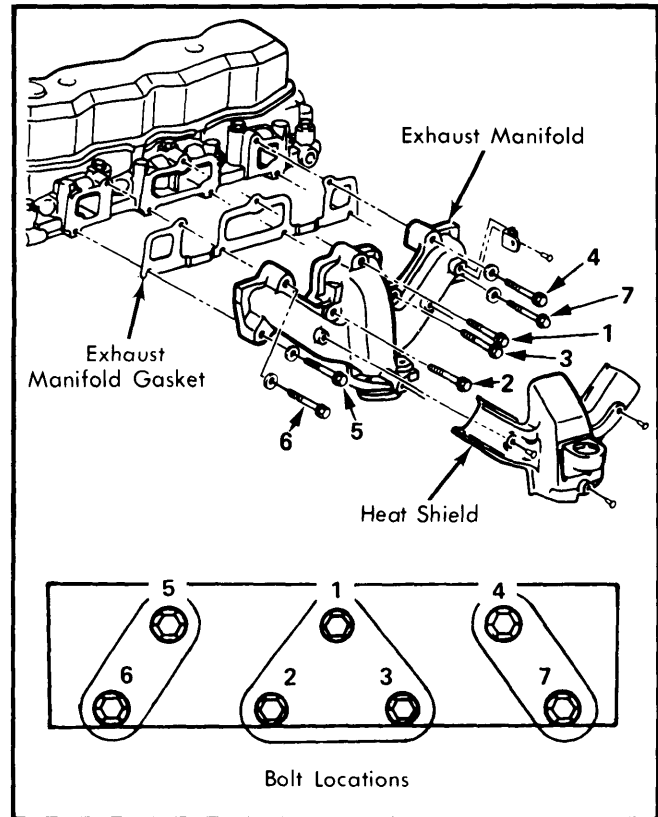

Fig. 2 Exhaust Manifold Tightening Sequence
2) Torque manifold-to-cylinder head bolts using torque sequence shown in Fig. 2. Reverse removal procedure to complete installation.